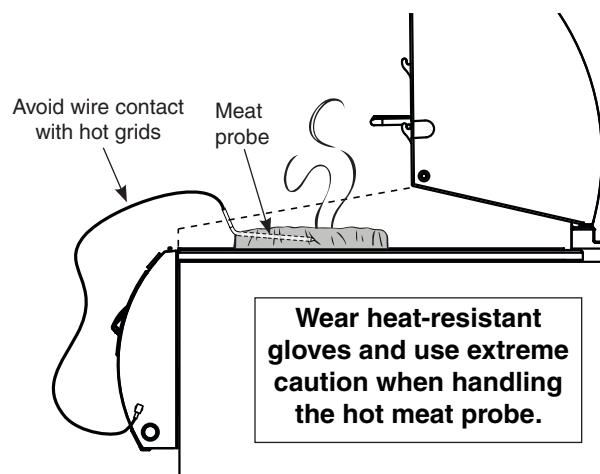

Fig. 29-3 Meat probe
- Meat probe wire is rated up to 800°F and cannot withstand continuous contact with flame. Avoid wire contact with hot cooking grids. See Fig. 29-3. If wire shows visible damage, meat probe needs to be replaced.